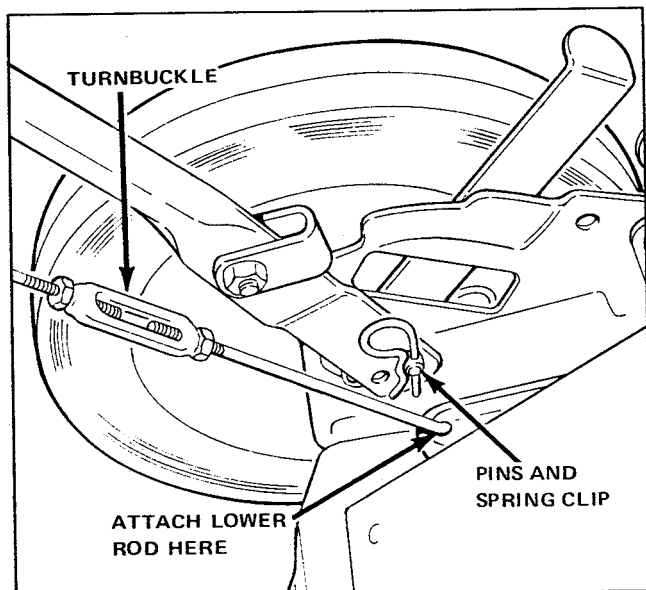

Figure 1. Installing Handle
2. Remove the spring clips from the pins in the rear wheel brackets, as shown in figure 1.
3. Install the handle on the pins, with the handle locks positioned over the top of the wheel brackets. (See figure 1).
2. Slip the hooks in the lower engaging rods through the slots in the driveshaft bellcranks as shown in Figure 1.